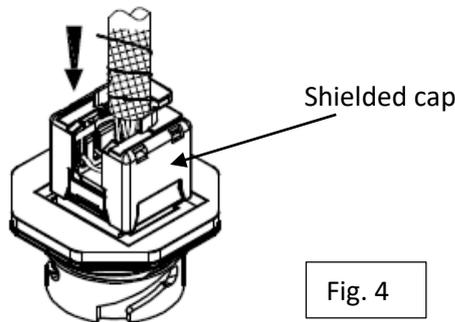

Fig. 4
5. Place the shielded cap on the jack and press down to ensure that it is fully seated. (Fig.4)